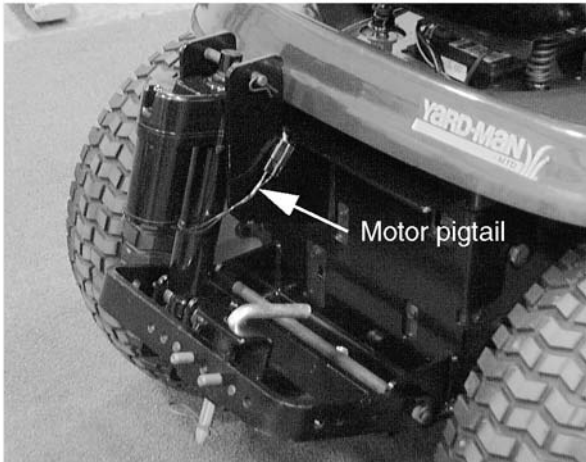

Figure 8-63.
1. If the hitch is installed on the tractor, disconnect the motor pigtail from the sleeve hitch harness. See Figure 8-63.